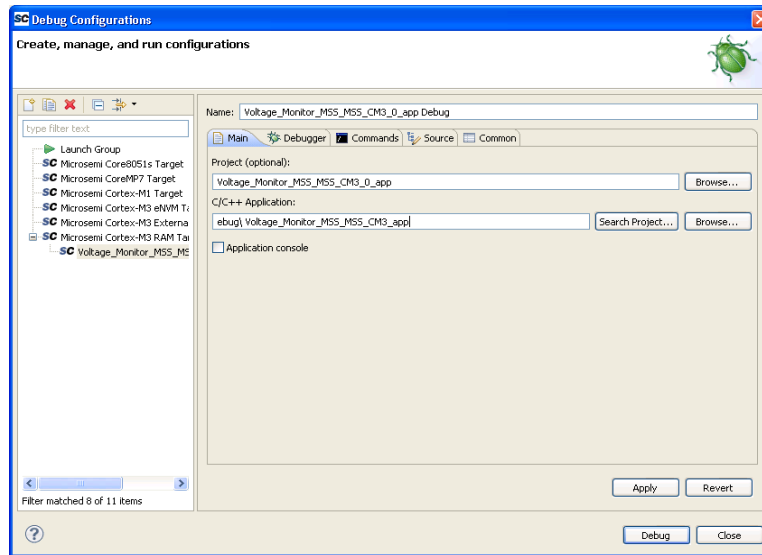

Figure 29 · Debug Configurations Window
2. Double click on **Microsemi Cortex-M3 RAM target**. The **Debug Configurations** window is displayed, as shown in Figure 29.